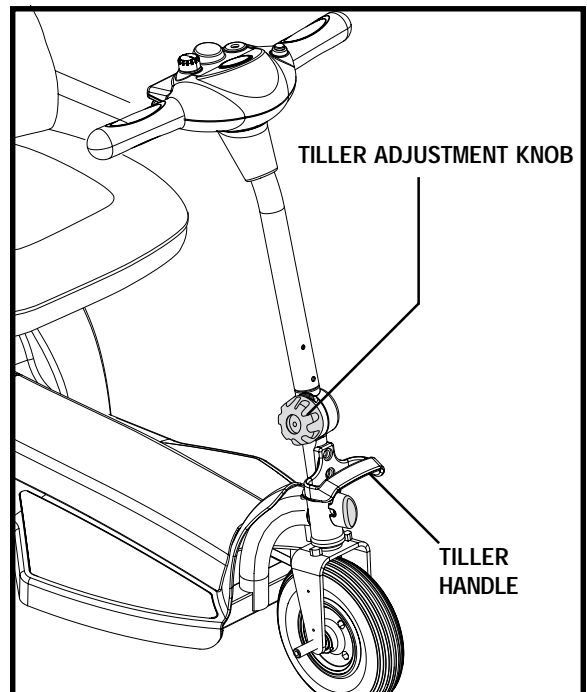

Figure 6. Tiller Adjustment
1. While supporting the tiller, turn the tiller adjustment knob anticlockwise to loosen the tiller. **See figure 6.**
The tiller handle is located below the tiller adjustment knob (see figure 6) and should be used when lifting the front end of the Travel Scooter during storage or transport. Make sure the tiller lock knob is in the locked position before using the tiller handle to lift the Travel Scooter.